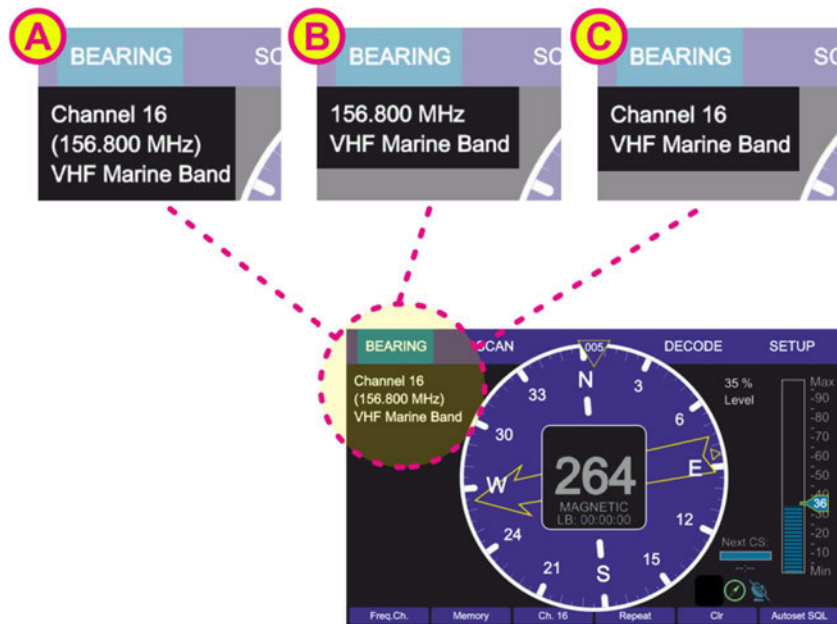
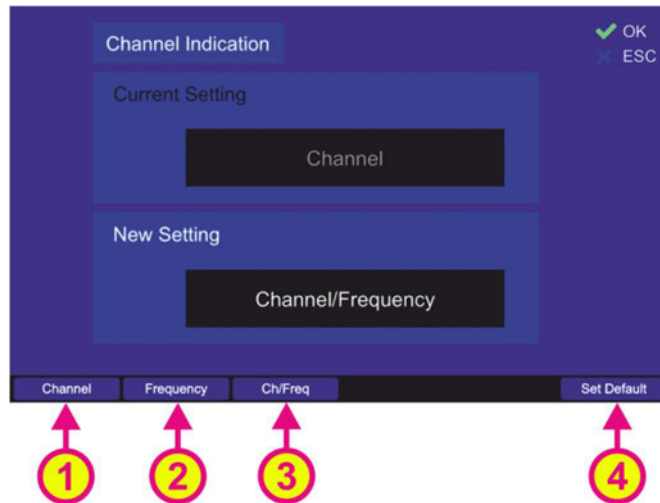

Figure 90. Types of the frequency/channel indication
Figure 91. "Channel Indication" dialog
It is possible to configure the indication of frequency/channel, which is then shown on the “Bearing” page, in the left upper corner of the display (s. Figure 90).
To change the type of frequency/channel indication, press “Edit Value” or “OK” while the line “Channel Indication” is marked. The corresponding dialog will open (s. Figure 91).
- “Channel” (s. Figure 91, position 1): the corresponding appearance on the “Bearing” page will be as shown in Figure 90, field C.
- “Frequency” (s. Figure 91, position 2): the corresponding appearance on the “Bearing” page will be as shown in Figure 90, field B.
- “Ch/Freq” (s. Figure 91, position 3): the corresponding appearance on the “Bearing” page will be as shown in Figure 90, field A.